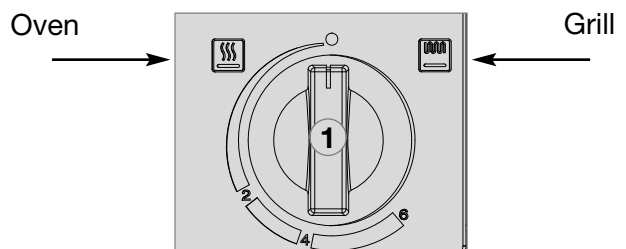

Fig. 47
- Put the operating knob **(1)** into position „●“ (Fig. 47).